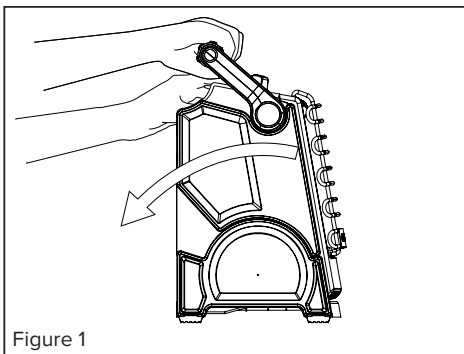

Figure 1
- From the back side of the heater (opposite of the heating plaques and guard) place one hand on the top of the back side of the heater and one hand on the handle; see Figure 1.